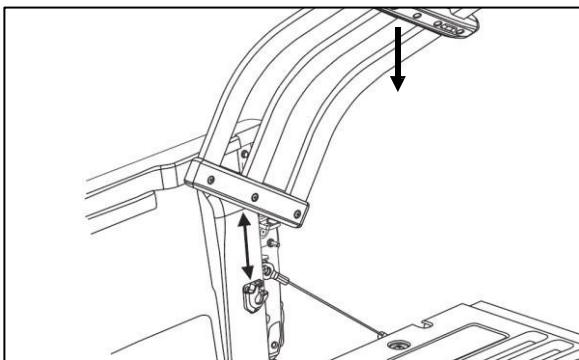

Fig. 2-1
- (1) To install, rotate the Bed Extender 55° from the tailgate and slide the pivots into mounting brackets as shown in (Fig. 2-1).